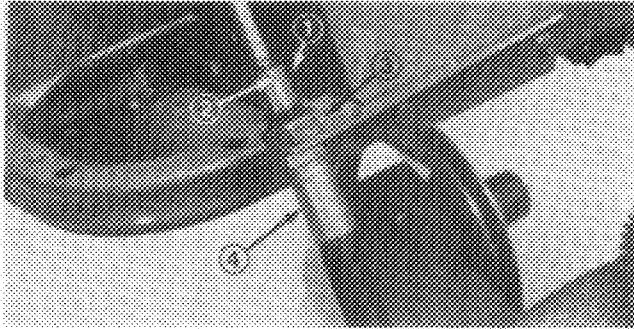

Figure 8
- Mount coupler to end of crank shaft with a roll pin (Fig. 8).
- Slide the large nut (Fig. 8) onto crank shaft while inserting flexible shaft up thru mounting hole in bottom bracket and into crank shaft coupler. Thread nut onto flexible shaft and tighten.